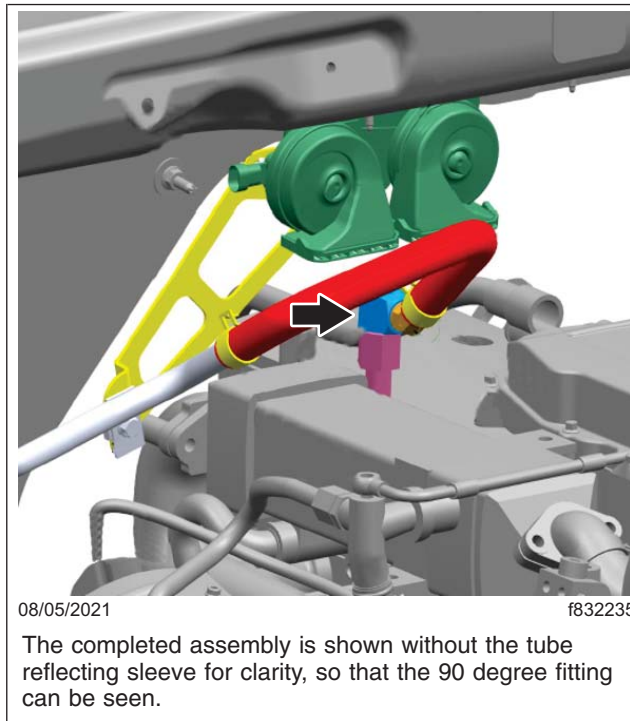

Fig. 4, Updated Heater Hose Installation
8. Attach the 90 degree fitting (part number 210503 000027) under the 45 degree fitting. See Fig. 4.